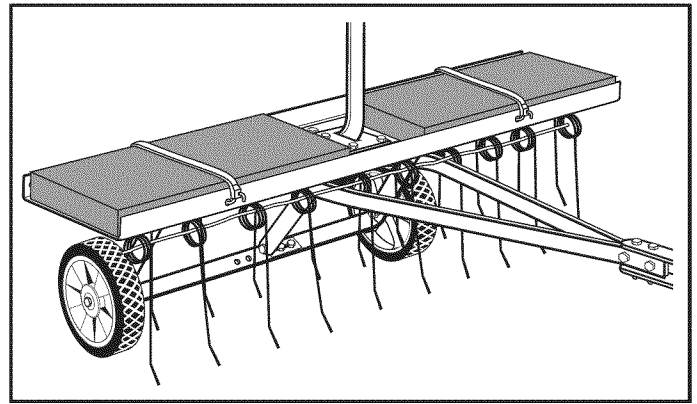

FIGURE 9
- If the dethatcher appears to be "jumping" during use, then extra weight should be added to the tine shield. In most conditions extra weight will be needed. Concrete patio blocks are recommended for weight because of their low profile; however any type of weight is suitable if it can be tied down to the shield. Secure weight by using suitable binding material such as rubber tie down straps or wire, fastening to the holes in the shield flange. See figure 9.